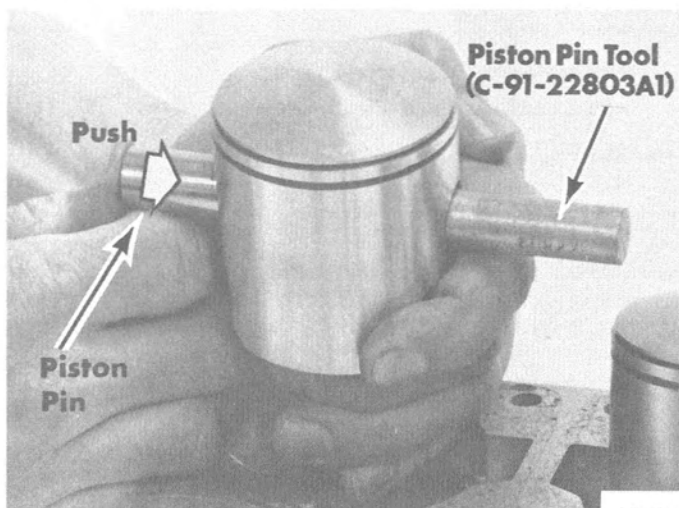

Figure 4. Installing Pistons
3. Install each piston pin, using Piston Pin Tool (C-91-22803A1) as a guide. (Figure 4)